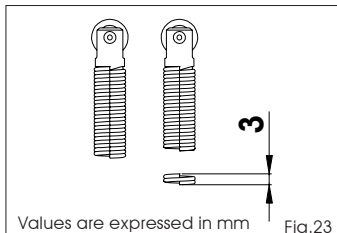

Fig.23
- Shorten the spring as shown in Fig. 23: two turns correspond to about 3 mm.